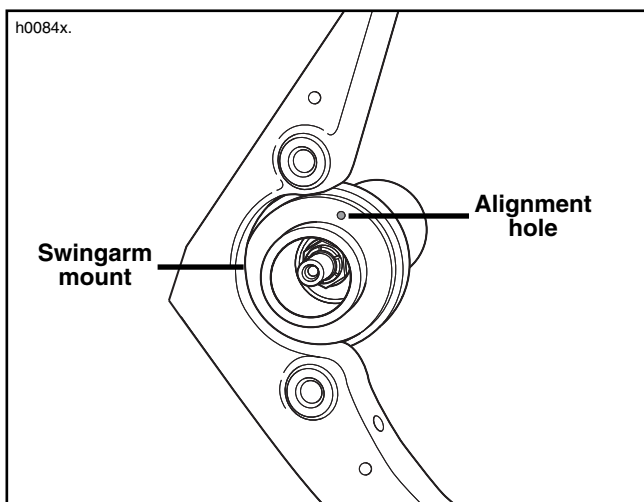
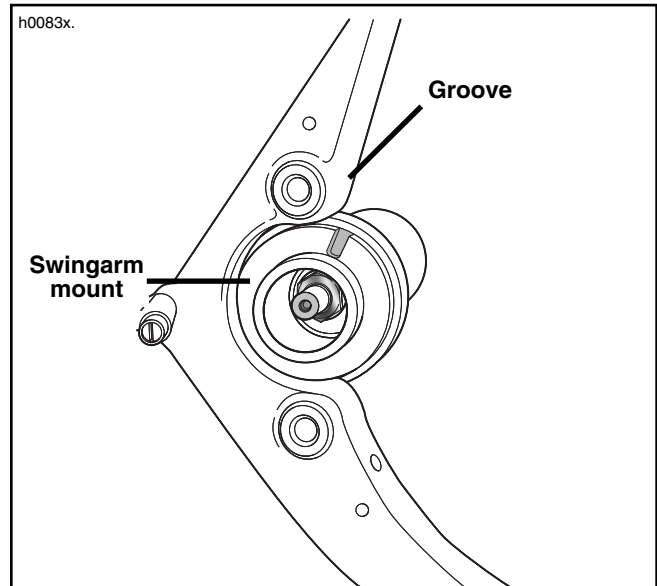

Figure 12. Swingarm Mount (2002 and earlier models)
Figure 13. Swingarm Mount (2003 and later models)
2. See Service Parts Illustration. Loosen and remove the screw with P-clamp (20) attaching rear brake line to right passenger footrest bracket. Retain screw and P-clamp to attach brake line to rear mount. Remove the bolt and lockwasher securing the right passenger footrest bracket and remove the bracket with footrest.
4. Remove the two bolts (w/lockwashers) to free the right rear swingarm bracket from frame and remove bracket. Save swingarm bracket for future installation and save bolts and lockwashers for installation of rear mount. See Service Parts Illustration and Figures 12 and 13. Position the rear mount (1) over the two mounting holes and be certain roll pin enters the alignment hole shown in Figure 13 for the 2002 or earlier rubber mount. On 2003 and later mounts, the roll pin must enter the rubber mount's groove shown in Figure 13.